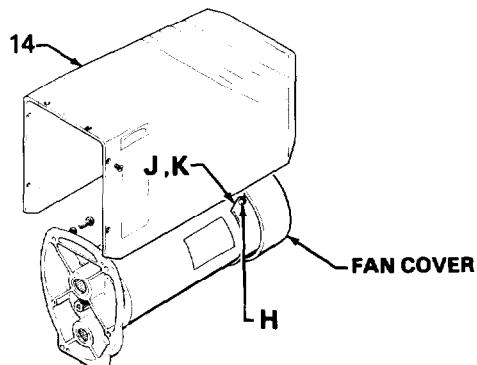

Fig 10
## MOTOR BRUSH REPLACEMENT (See Fig 10 and 11)
1. Remove the motor cover (14). See Fig 10.
2. Remove the screws (H), inspection covers (J) and gaskets (K) on each side of the motor. See Fig 10.